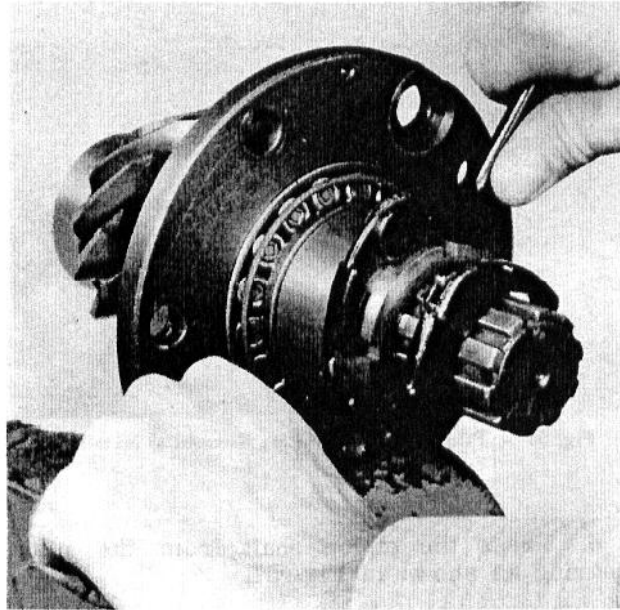

Fig. 61 - Tightening Bearing Retaining Nut
5. Tighten the nut enough to load the pinion bearings to 18 - 22 in.-lbs. of torque on the pinion shaft. Refer to Fig. 61.